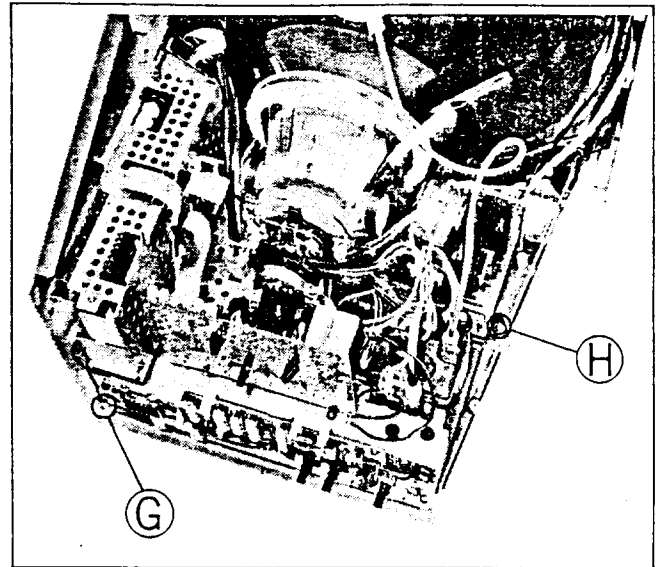

Fig. 5
4. Unscrew the screw marked (G) shown in Fig. 5, and loosen the screw marked (H).